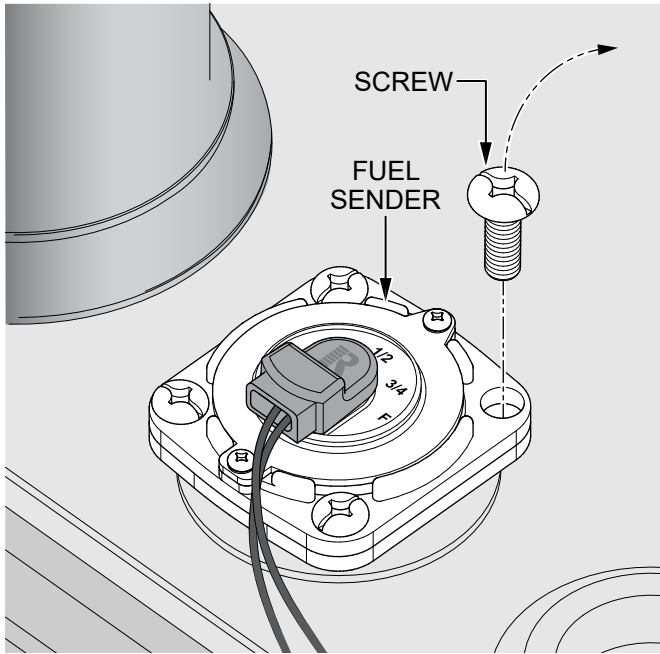

Figure 4. Remove Fuel Sender Hardware
4. Remove the **four screws** (Figure 4) securing the **fuel sender** to the fuel tank. Save the screws for later.